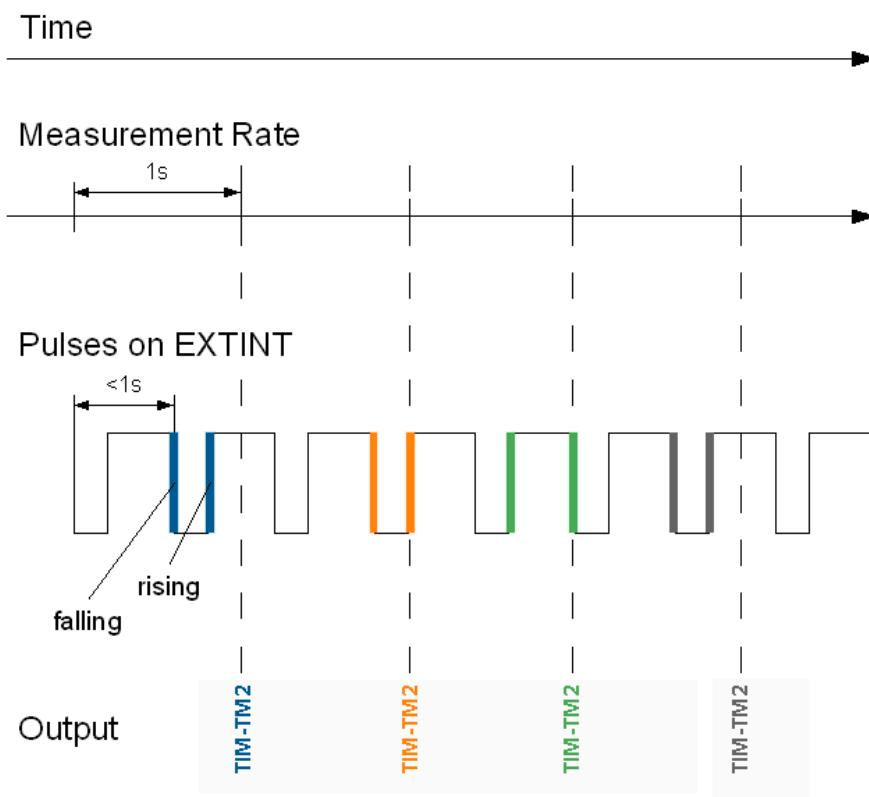

Figure 15: Time mark
-  Only the last rising and falling edge detected between two epochs is reported since the output rate of the UBX-TIM-TM2 message corresponds to the measurement rate configured with CFG-RATE-MEAS (see Figure 15 below).